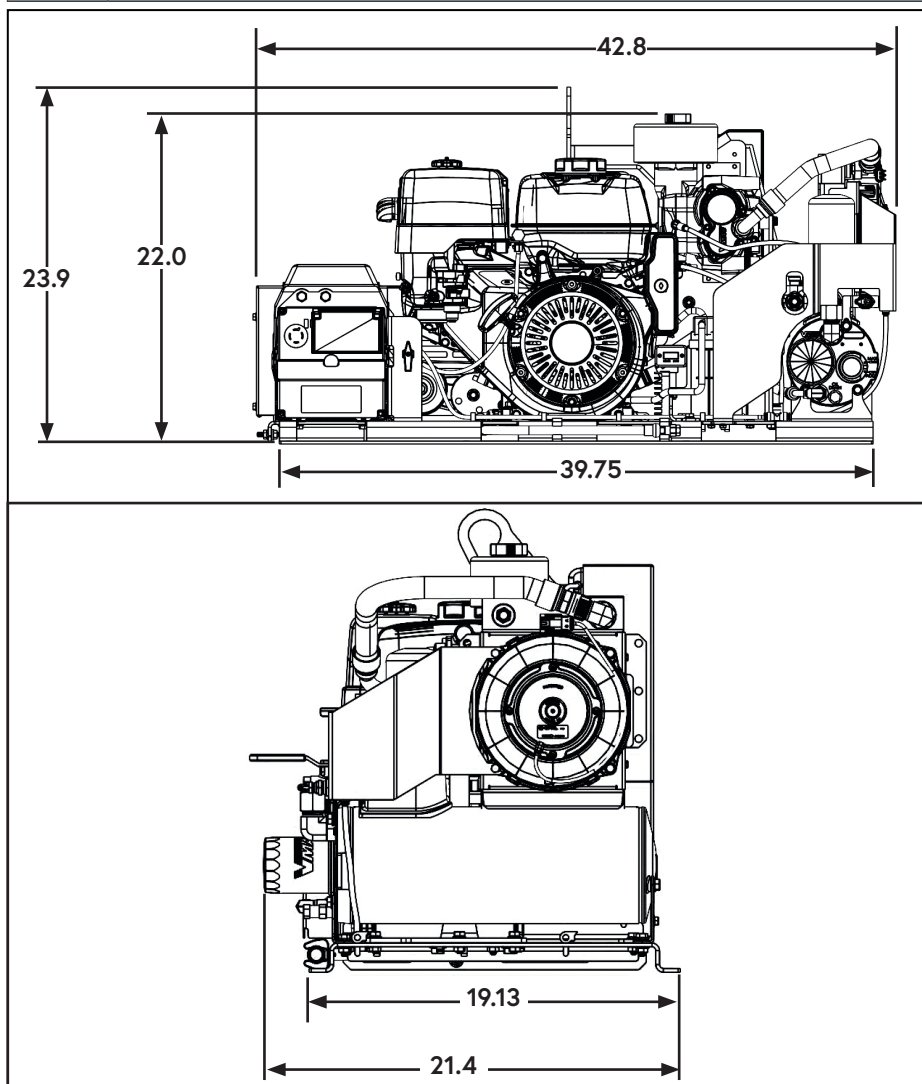

Figure 4 — External dimensions
- Locate a suitable mounting position for the G30. Place the unit in its intended location and check for clearances to any other objects (Figure 4).